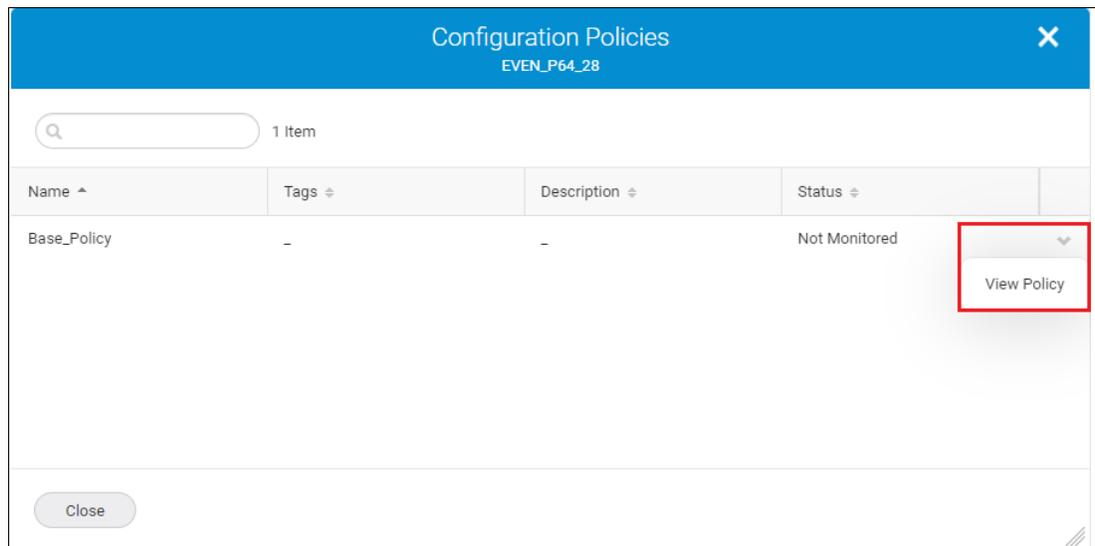

Figure 5-10 Configuration policies view
- The Configuration Policies window opens and lists associated policies for a switch. Click the **View Policy** option from a policy. The selected policy details window opens, as shown in Figure 5-10.